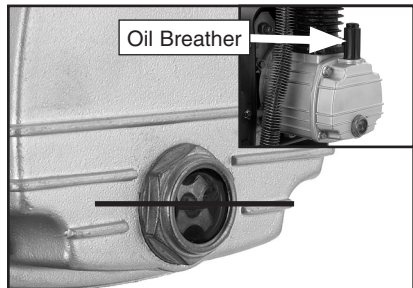

**Figure 2.** Air filter attached to cylinder head.
2. Be sure the air filter is attached to the cylinder head as shown in **Figure 2**.